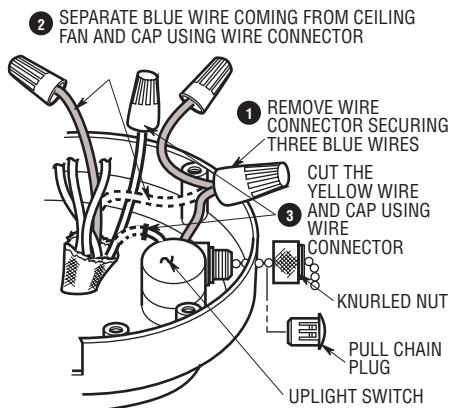

Figure 12
- 3. For Ceiling Fan Models CF2400, CF4500 and CF4800 Only. Remove the wire connector joining the three blue wires. (Figure 12). Separate the blue wire coming from the ceiling fan and cap this wire using a wire connector (supplied). On Models CF4500 and CF4800 only, cut the yellow wire coming from the upright switch; cap the end of this wire coming from the center of the motor using a wire connector. On Model CF2400 only, remove the wire connector joining the two yellow wires; cap the yellow wire coming from the motor using a wire connector (orange wire on older models). Remove the knurled nut securing the upright switch to the switch housing and remove the upright switch.